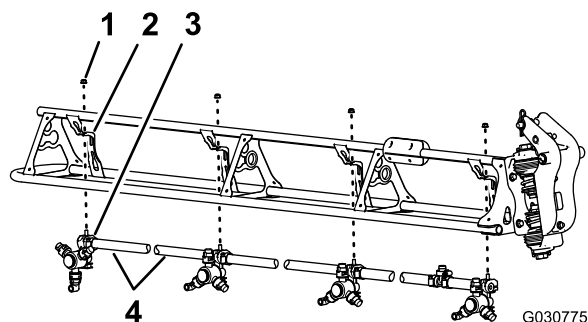

Figure 118
1. Cut the hose between 2 sprayer nozzles (Figure 118).
2. Remove the flange locknut (5/16 inch) that secures the sprayer nozzle to the nozzle support (Figure 118).